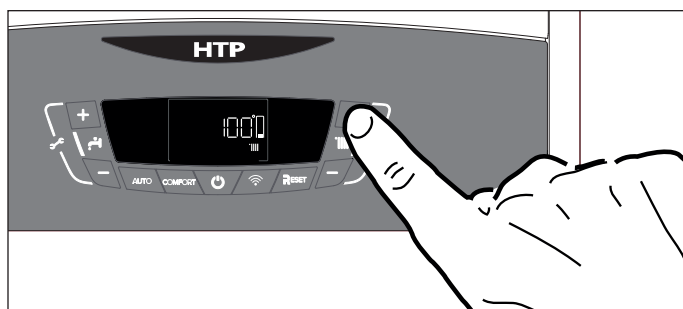

Figure 62 - Central Heating (CH) Temperature Adjustment
C. Central Heating (CH) Temperature Adjustment
It is possible to adjust the central heating (CH) temperature setpoint from the home screen by pressing the CH +/- buttons. See Figure 62. The allowable operating range is limited by the Max and Min Temperature Settings (e.g., Parameters 4.2.5 and 4.2.6) which are adjustable via the Technical Menu. See P. Technical Menu - Access and Navigation.